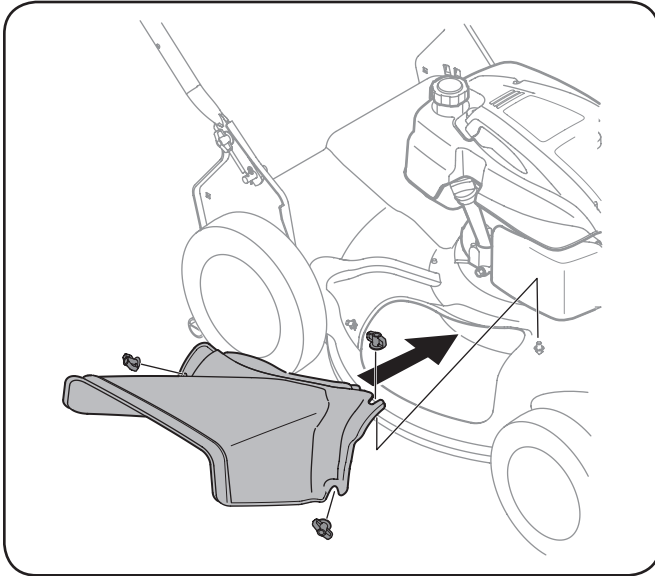

Figure 3-7
2. Attach side discharge chute to unit and secure with the three wing nuts. See Fig. 3-7.